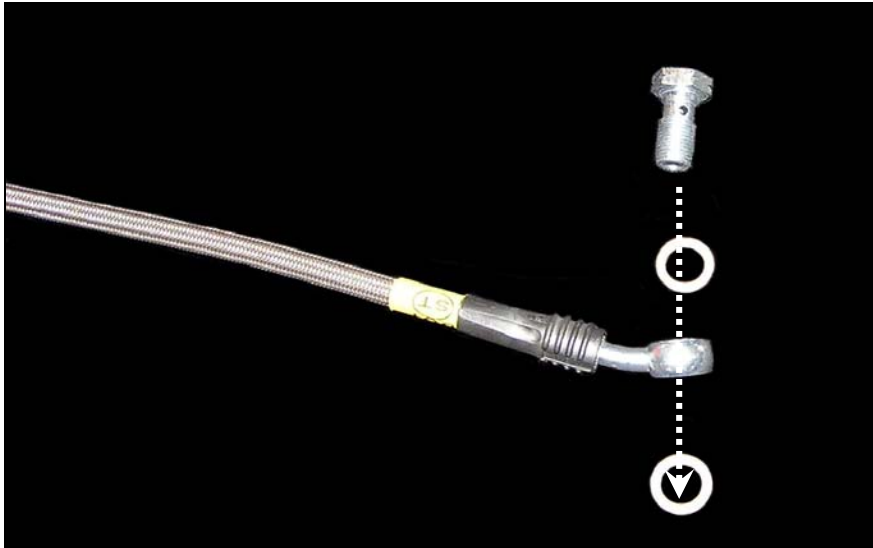

Figure 14
1. Loosely attach the Brake Hose to the caliper with the Banjo Bolt and Copper Crush Washers on each sides of the hose end as shown in Figure 14.